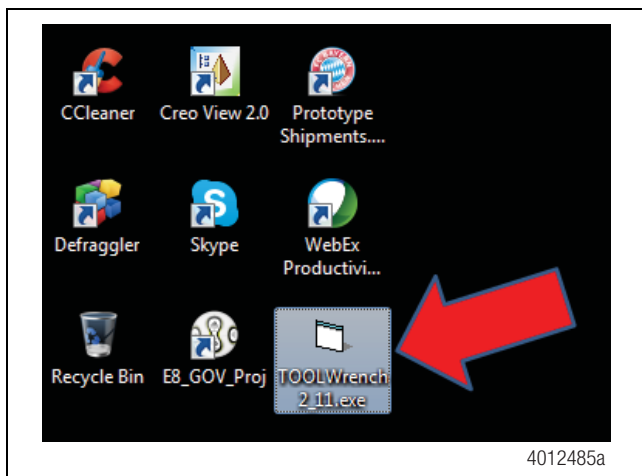

Figure 1
1. Save the TOOLWrench 2_11.exe on the desktop folder of the laptop that has the WABCO TOOLBOX™ Software installed. Make sure that the file extension on the file is correct (it must be .exe). Figure 1.